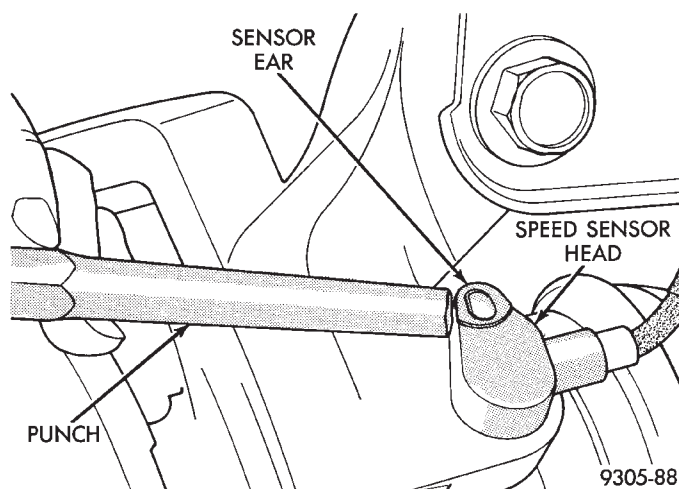

Fig. 4 Speed Sensor Head Removal (Typical)
(5) Remove screw attaching ABS speed sensor head to steering knuckle. **Speed sensor head should be removed from steering knuckle, to avoid damage to speed sensor by outer C/V joint when hub and bearing is removed.**
(6) Carefully, remove sensor head from steering knuckle. If the sensor has seized, due to corrosion, **DO NOT USE PLIERS ON SENSOR HEAD.** Use a hammer and punch (Fig. 4) to tap edge of sensor ear, rocking sensor side to side until free.